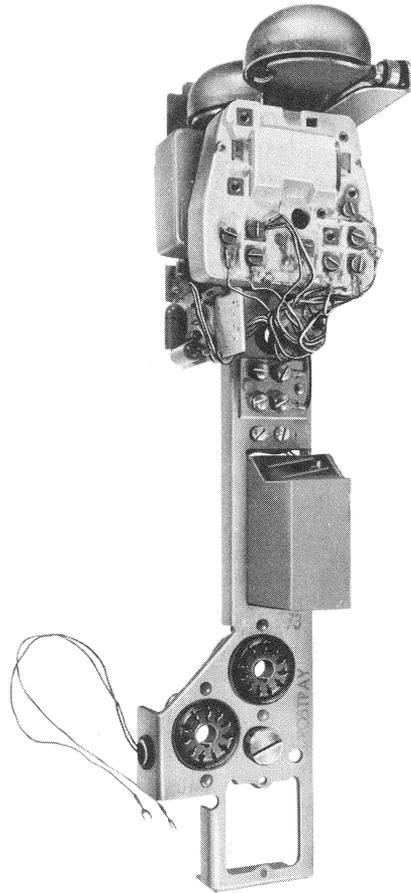

Fig. 19—30B Coin Chassis—For Use in 1E-Type Sets
3.20 The 30A (SF) coin chassis used in 1E-type sets can be replaced with a 30B (DF) coin chassis (Fig. 19).